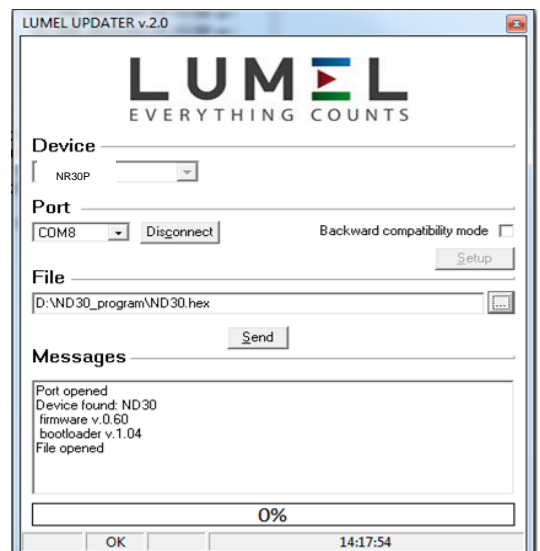

Fig.24. View of program window: a) eCon, b) firmware upgrade
After starting eCon the serial port, speed, mode and meter address should be set in the settings. Then select NR30PNET meter and click Configure. To read all the settings, click the down arrow, then the floppy icon to save the settings to a file (to restore them later). After selecting *Update firmware* (in the upper right corner of the screen) *Lumel Updater* (LU) window will open - Fig. 24.b. Press *Connect*. *Messages* information window contains info about the progress of the upgrade process. When the port is properly opened the display shows: *Port opened*. There are two ways to enter the upgrade mode: remotely through the LU (based on settings in eCon - address, mode, speed, COM port) and by turning